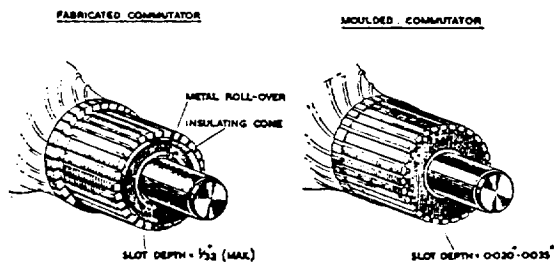

Fig. Q.3.
1. A commutator in good condition will be smooth and free from pits and burned spots. Two types of commutator, the moulded and the fabricated, will be found in service. Moulded commutators can be recognized by the exposed end being quite smooth, unlike that of the fabricated commutator from which a metal roll-over and an insulating cone protrude (see Fig. Q.3).